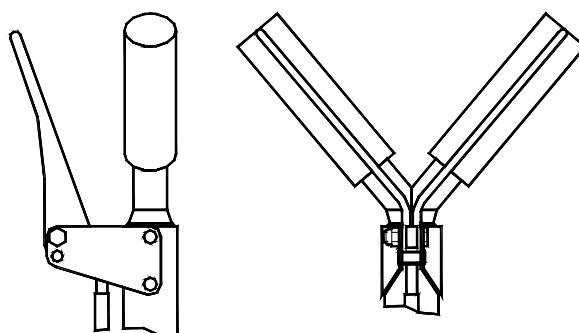
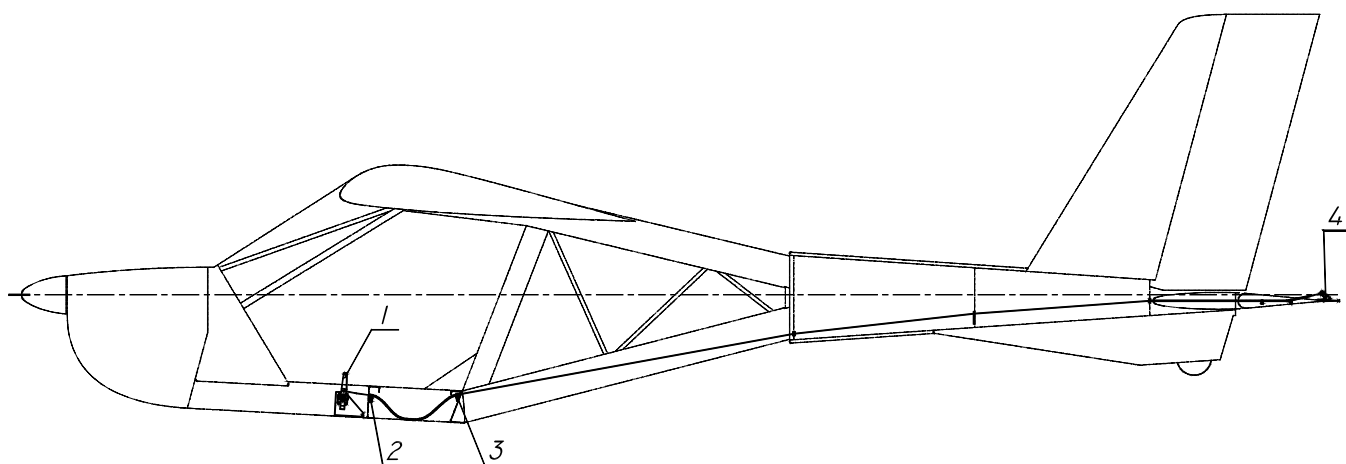

fig. 7
fig. 8
* The central stick may be of one of the two types – a single grip (fig.7) and a twin grip (fig.8) type.
The trim tab control lever 1 (fig. 8) is placed on the right side of the central console forward of the pilot seats. Trim tab is connected to the control lever with a cable.